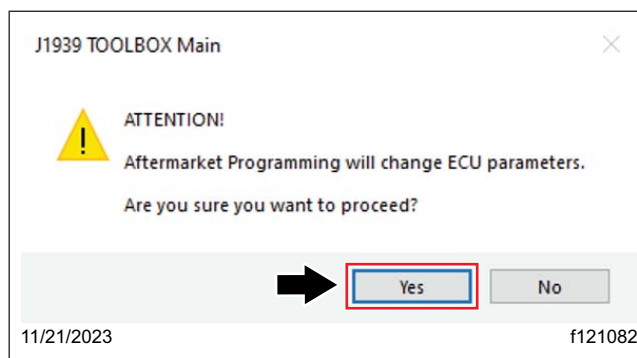

Fig. 12, Selecting Yes to Proceed to the ECU Programming
14. A message will be displayed indicating that the ECU parameters will be changed after the programming. Select 'Yes' to continue. See Fig. 12.